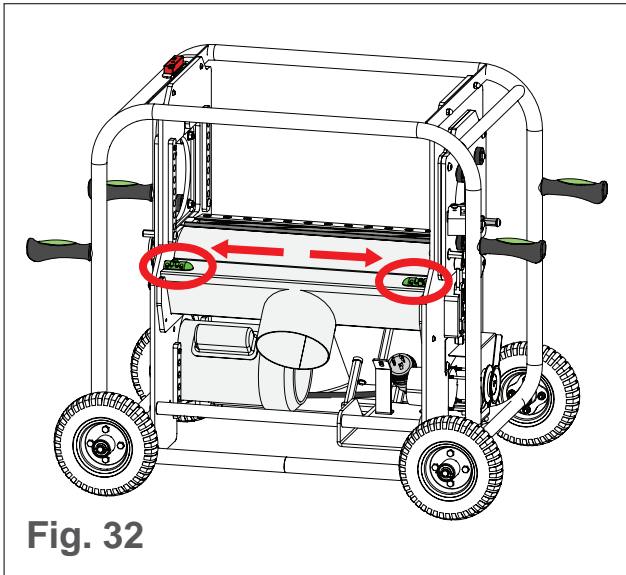

Fig. 32
5. Slide upper vacuum shroud latches inward, place shroud in operating position, and release latches (see Fig. 32).